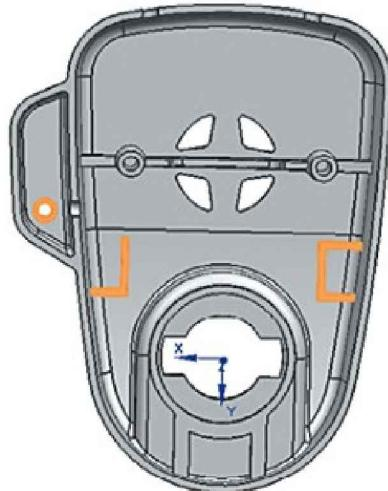

Figure 2.45. Delete Face command
7. Click **Delete Face** on the **Synchronous Modeling** toolbar. In the **Delete Face** dialog box, (Figure 2.45) do the following:
- Select geometry elements highlighted in Figure 2.45.